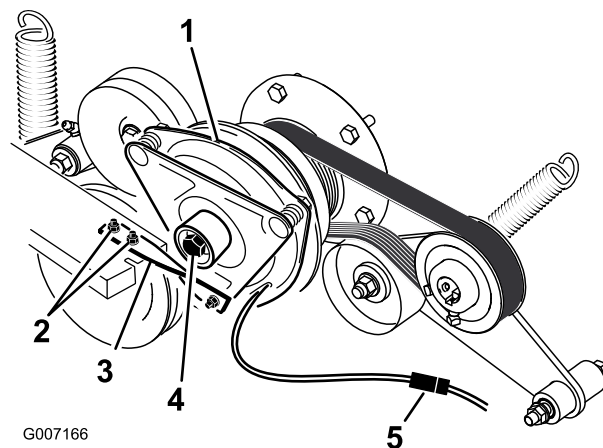

Figure 8
6. Unplug the electric connection for the clutch (Figure 8).
7. Remove the two bolts holding the rubber clutch strap to the mower frame (Figure 8).
8. Remove the center bolt holding the clutch to the engine shaft and remove the clutch and key (Figure 8).
15. While holding the crank shaft at the back of the machine, install the center bolt and torque it to 50 ft-lbs (68 N-m) (Figure 8).
16. Install the rubber clutch strap to the mower frame with the two previously removed bolts and nuts (Figure 8).
18. Plug in the electric connection for the clutch (Figure 8).